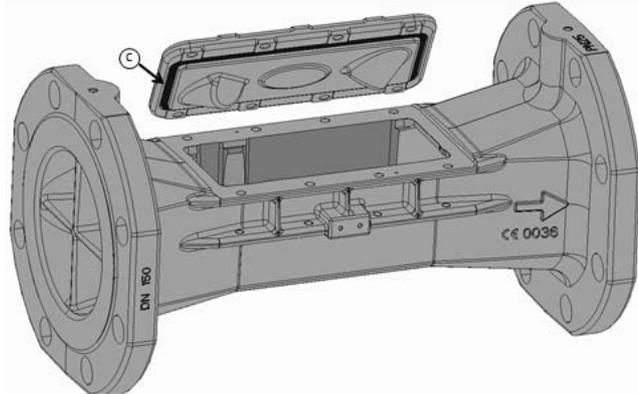

Fig. 4: Gasket "c" of the interim cover
- Check the fit of the gasket "c" (see figure 4) on the interim cover. The gasket must be properly positioned in the groove and be free of any damage.